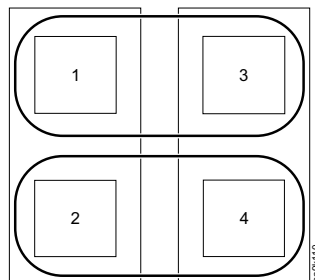

Figure 28. Crossing Fibre Channel grid controller ports
**Important:** It is important to cross the Fibre Channel or iSCSI ports for resiliency and high performance, as depicted in Figure 28.